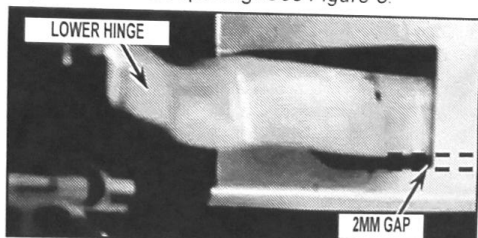
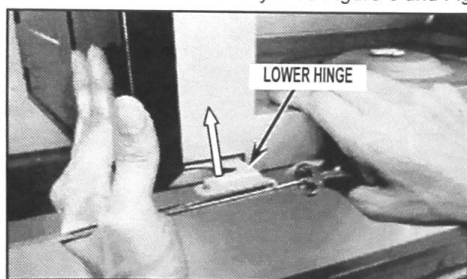

FIGURE 5
FIGURE 6
7. Lower door hinge should have 2mm gap between bottom of hinge and cabinet opening. See Figure 5.
8. Adjust accordingly as shown. Use a sturdy tool to increase the space below the lower hinge, so that the supplied hinge bracket can be inserted easily. See Figure 5 and Figure 6.